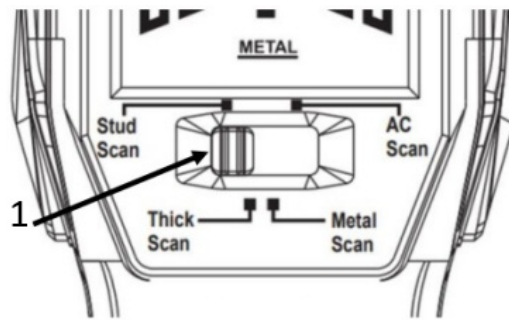
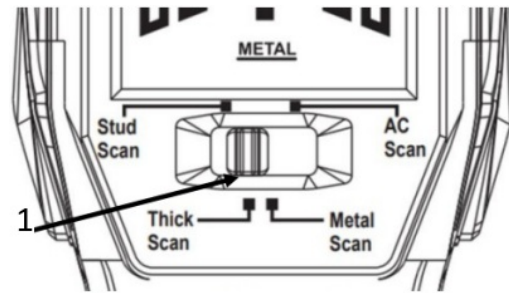

Figure 3
Figure 4
- Selecting the detection mode: move switch to left for StudScan (Figure 3) and right for ThickScan (Figure 4).